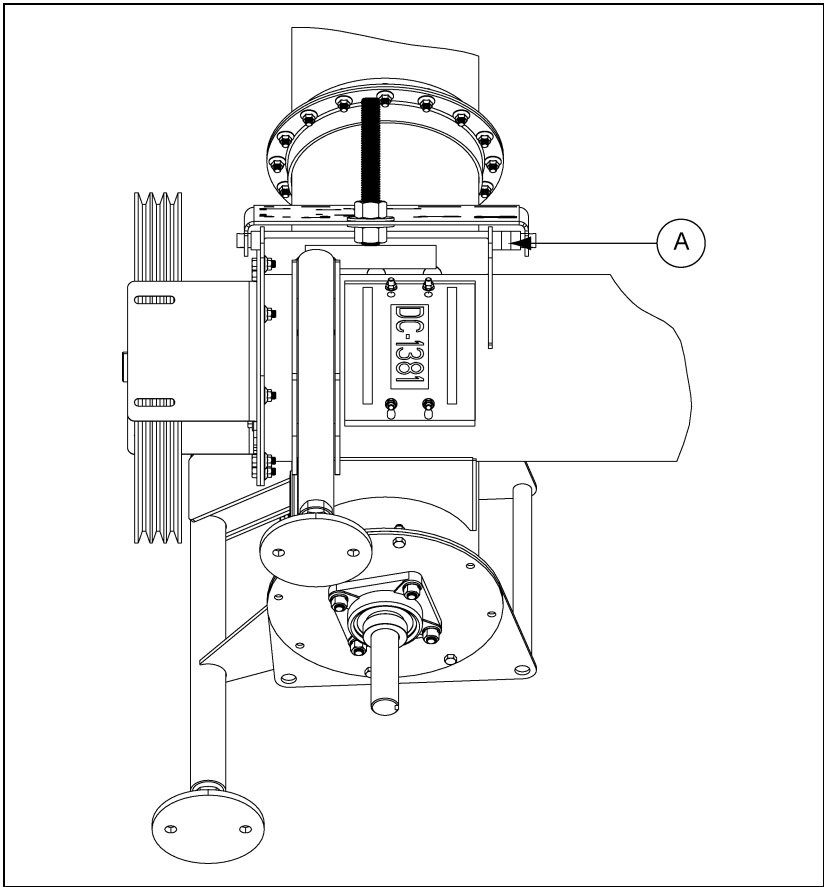
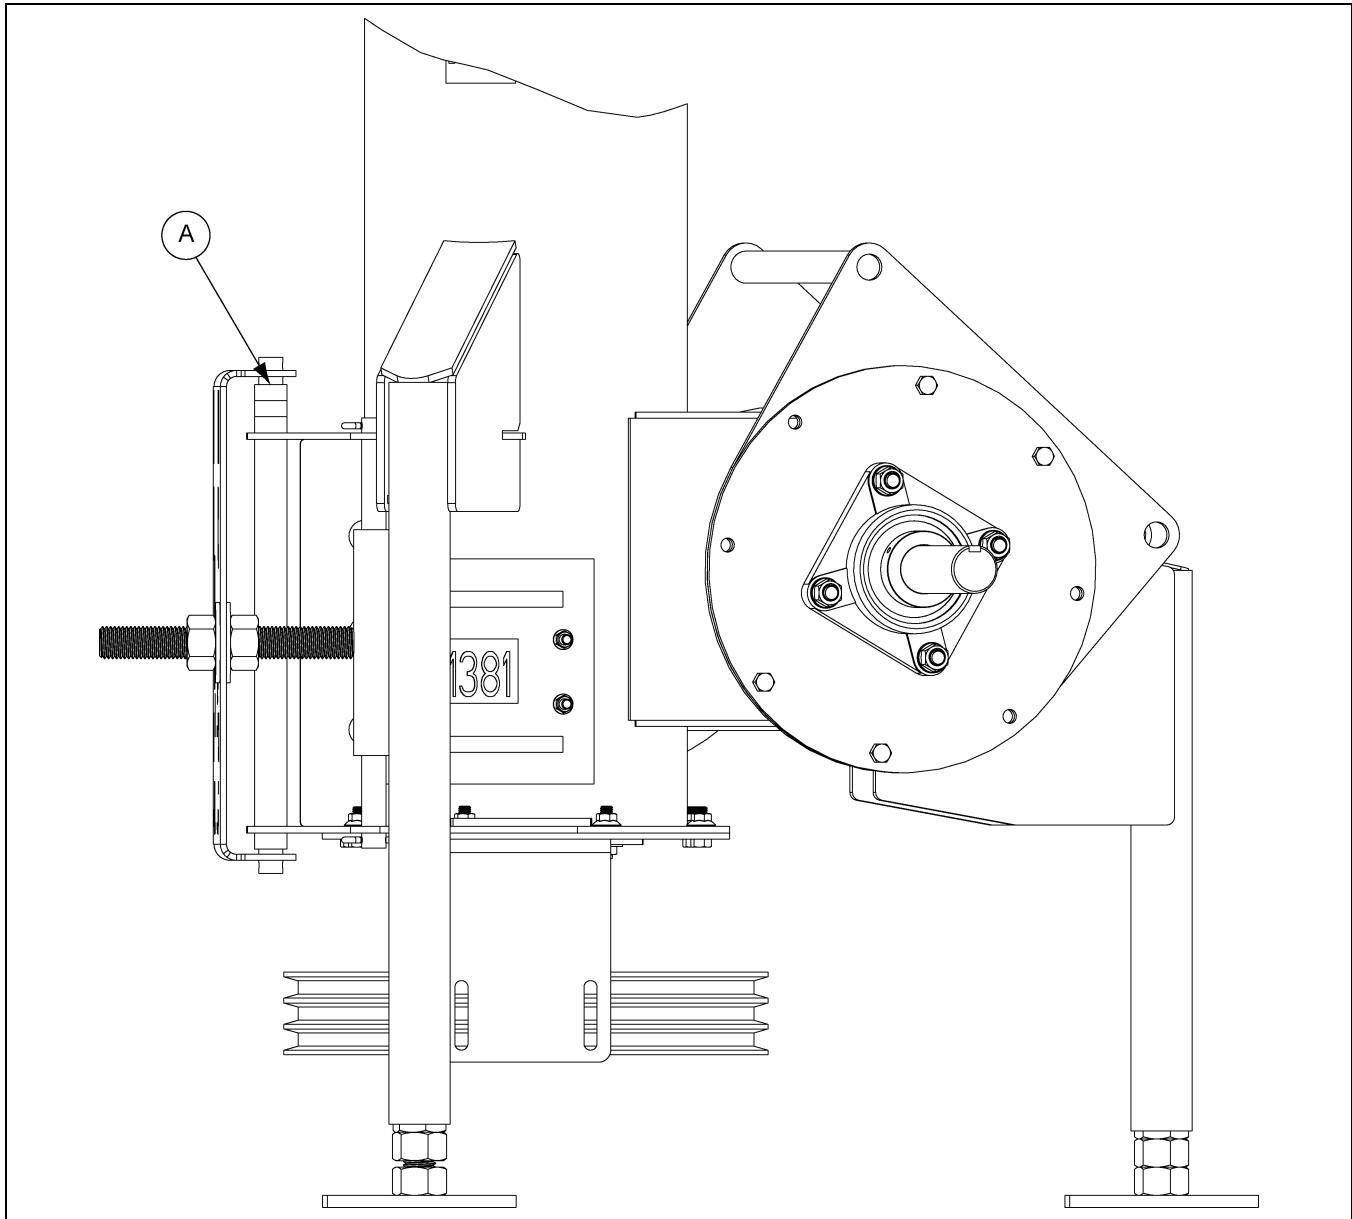

Figure 3P
Figure 3Q
B. Install pulley onto motor shaft and make sure that it is aligned with the flight pulley. It may be necessary to move spacers to gain shaft alignment. (See Figure 3P below and Figure 3Q on Page 29.)